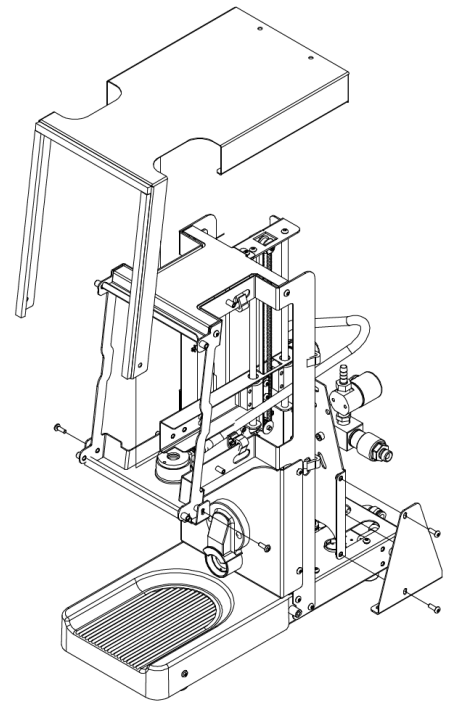

Figure 48: Steps to access linear rails and bearings
4. See **Figure 48: Steps to access linear rails and bearings.**